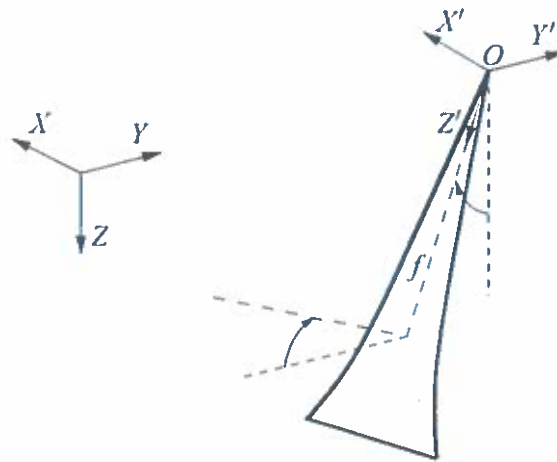

Figure 1.1 Compound 'ball-jointed' pendulum.
1. A compound 'ball-jointed' pendulum of mass m consists of a symmetric rigid body fixed at one of its end points along its axis of symmetry (point O in Figure 1.1), and which is free to rotate about the fixed point in any direction under the influence of gravity. The centre of mass of the pendulum is on the axis of symmetry at distance f from the fixed point. A body-fixed Cartesian coordinate system has its origin at the fixed point and its z -axis (Z') along the axis of symmetry of the body. The body-fixed x -, y -, and z -axes ($X'Y'Z'$) correspond to principal axes with principal moments of inertia I_{xx} , I_{yy} , and I_{zz} respectively. In the nominal configuration the body-fixed x -, y -, and z -axes are respectively aligned with the x -, y -, and z -axes (XYZ) of an earth-fixed Cartesian coordinate system, in which the x -axis is horizontal and the z -axis points downwards.